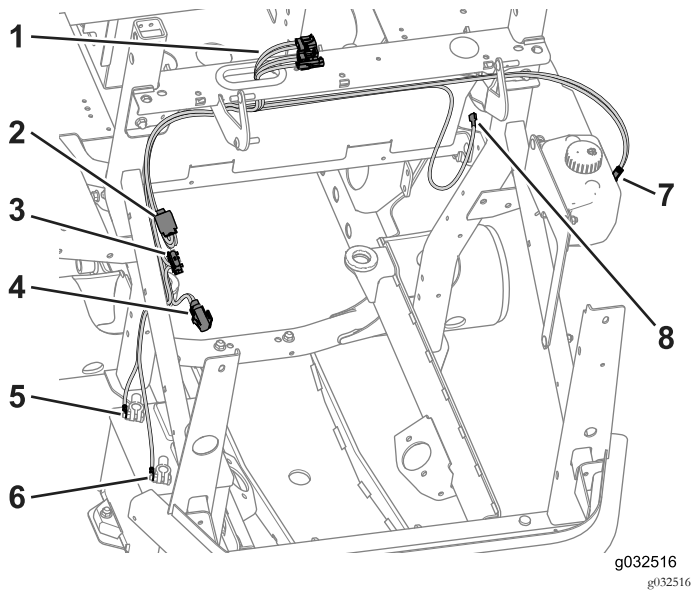

Figure 38
1. Route the 3 cab connectors through the grommet (Figure 38).
2. Route the auxiliary-power wire across the frame support, down along the ROPS tube, and toward the operator controls (Figure 38).
3. Route the washer wire across the frame support, down along the ROPS tube, and toward the washer bottle (Figure 38).